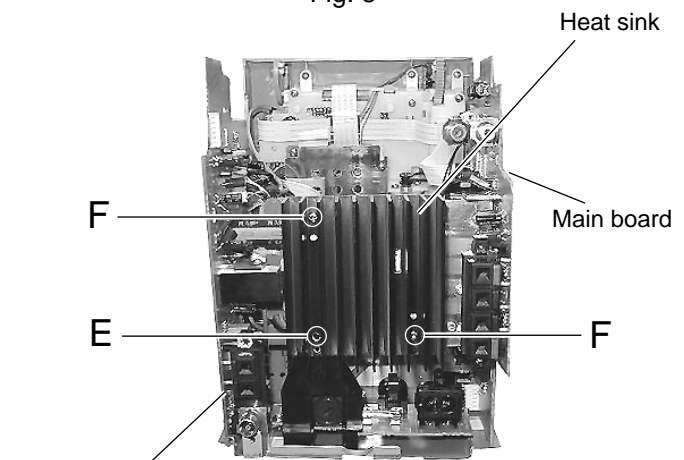

Fig. 10
2. Remove the screw **E** attaching the heat sink on the back of the body (Refer to Fig. 10).